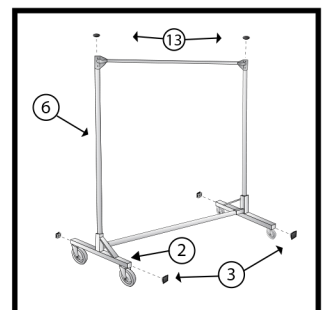

Figure 4
5. Insert square end caps (3) into frame opening (2), and round end caps (13) into top of upright bars (6). End caps will need to be hammered on. (Figure 4)